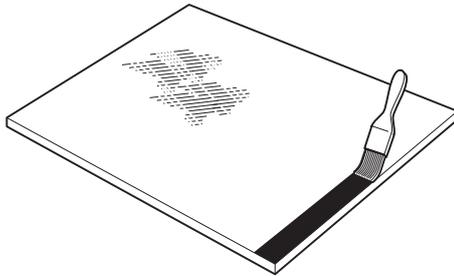

Fig 9.
- b If the glass does not have a black ceramic ink band, paint a band on the glass using 'Black Primer 206J'. The band should be approximately 25mm (1in) wide, and the edge should be a neat straight line. → Fig 9. (□ B-5).